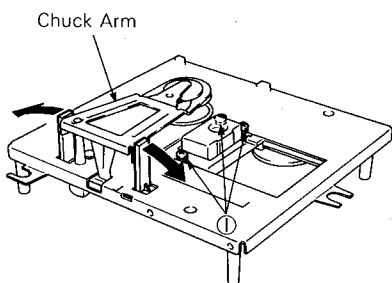

Fig. 4
- c) Remove 3 screws (1), then remove the Optical Pick-Up. (Fig. 4)
- d) Undo 2 catches fixing the Chuck Arm to the right and left and remove the Chuck Arm. (Fig. 4)